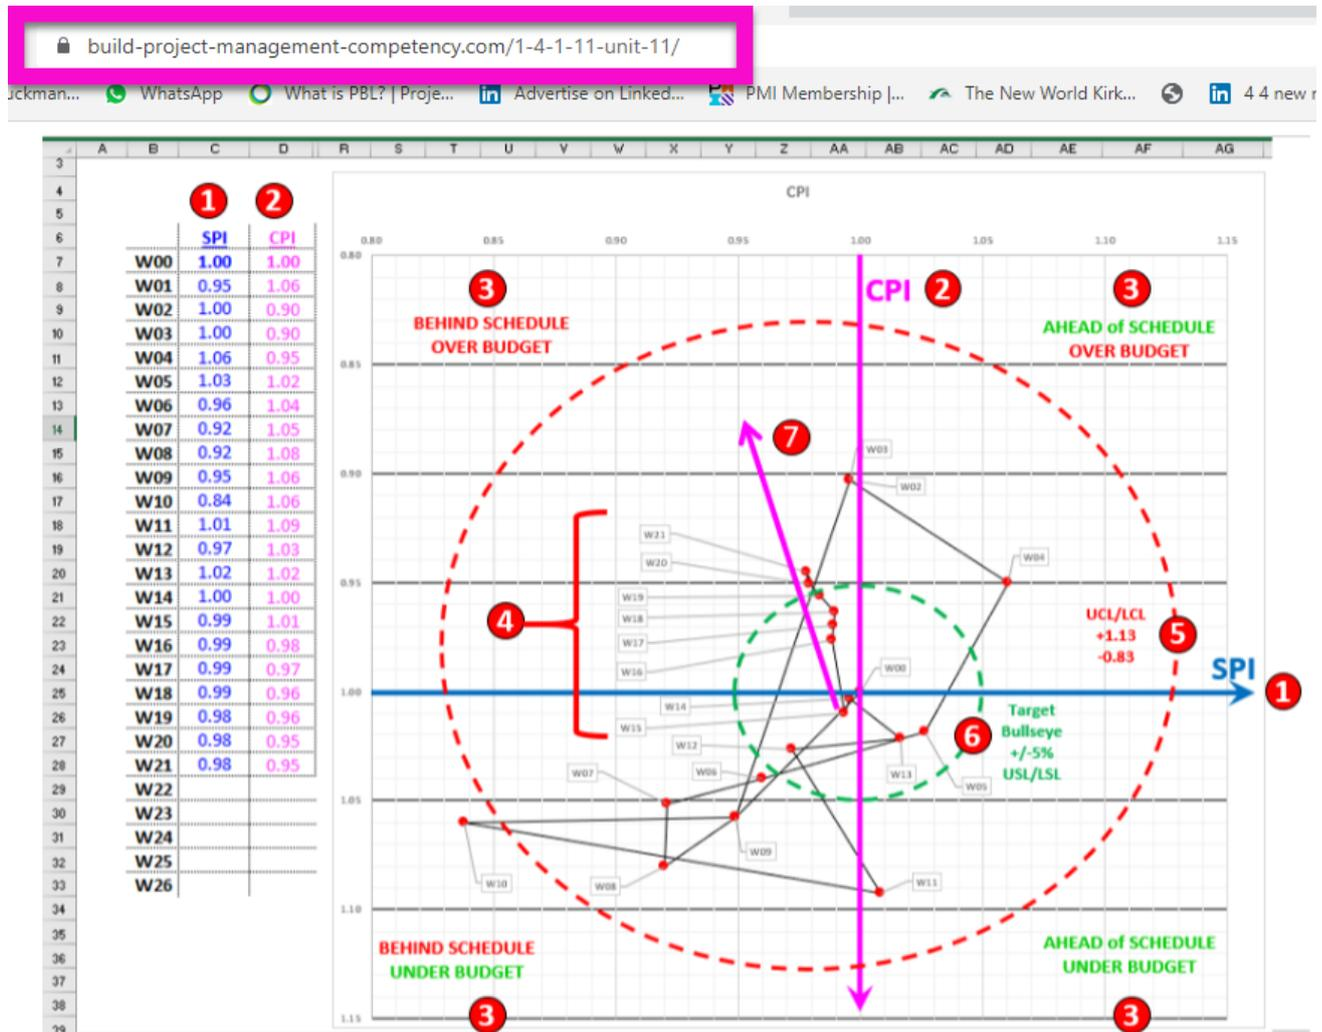
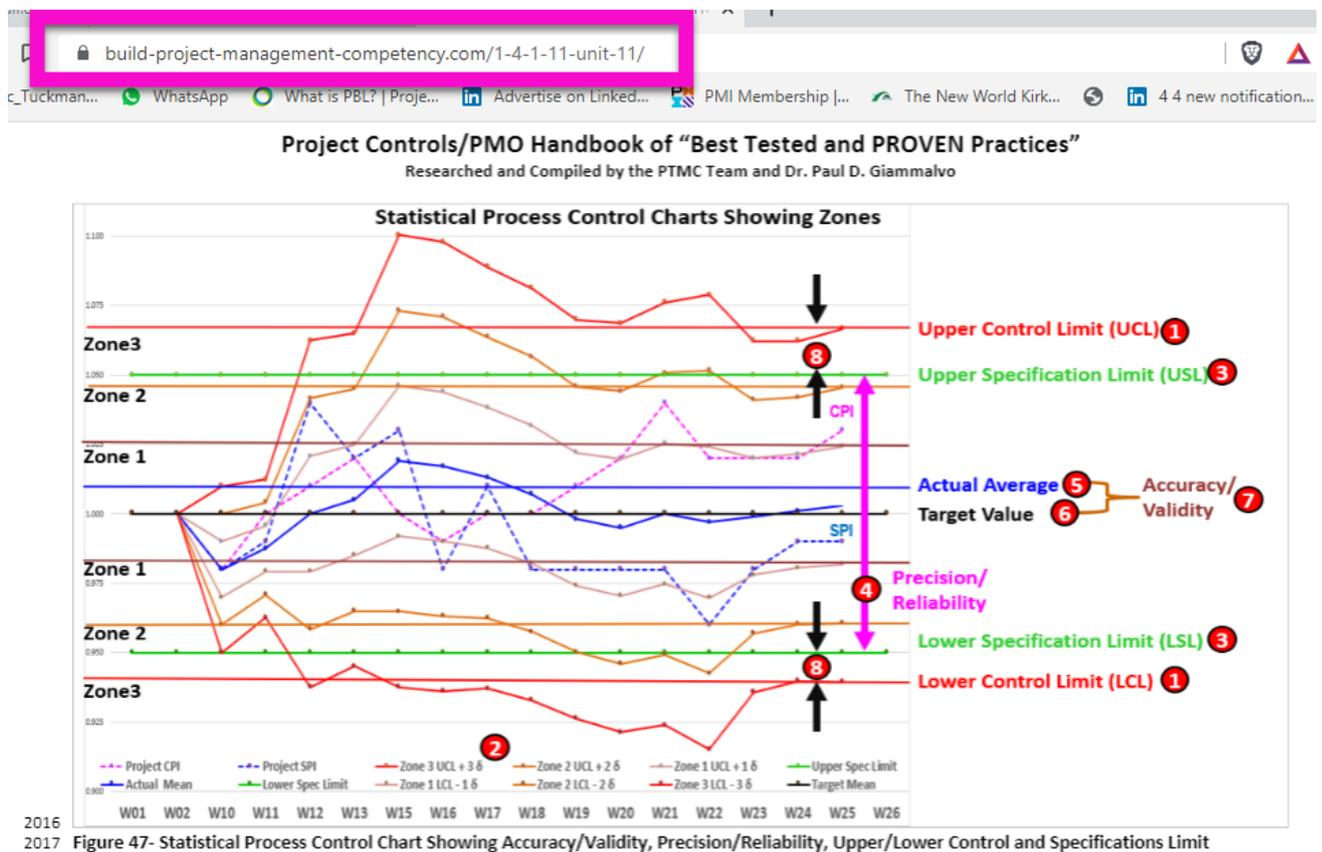

Figure 11- Detailed View of SPI and CPI Target Chart vs. the UCL/LCL and USL/LSL
Figure 12- Detailed View of Statistical Process Control Charts using SPI and CPI Data
Figure 11 is the PRIMARY or MAIN dashboard gauge we use on our projects, and we teach in our courses that evolved from the work of Gillette and Dana, updated to take advantage of the features in Excel. For a complete explanation of these graphics, including not only step by step instructions on how to create and use them but also free access to the Excel templates, you can go HERE <https://build-project-management-competency.com/1-4-1-11-unit-11/>
We still have to see if the process is IN or OUT of control due to INTERNAL or PROCESS related factors. (See Figure 12)
If we take the graph shown in Figure 11 and turn it to the RIGHT, we can see the same data as shown in Figure 11, and by looking at over TIME, we get Figure 12. (Also see Figure 10, lower right-hand quadrant to see the relationship between Figures 11 and 12) Using this chart (also done in Excel), we can apply the various 3 Sigma Statistical Process Control Analysis tools to find out the root cause(s).
- 3) Reliable- How consistent are we? Are our readings falling all over the chart (Figure 11, Weeks 1-Week 14), or are they more like the readings from W15 to W23?
Hypothesis testing is helpful when trying to identify whether a relationship exists between two variables, and rather than looking at anecdotal evidence, instead look at historical data to run a longitudinal analysis that looks at changes over time, as shown in Figures 11 or 12.
Examples of this can be found using a Tornado or Spider Graph (Figures 7 and 8), or we can use the SPI vs. CPI Target Chart (Figure 11) combined with the Statistical Process Control Chart (Figure 12)